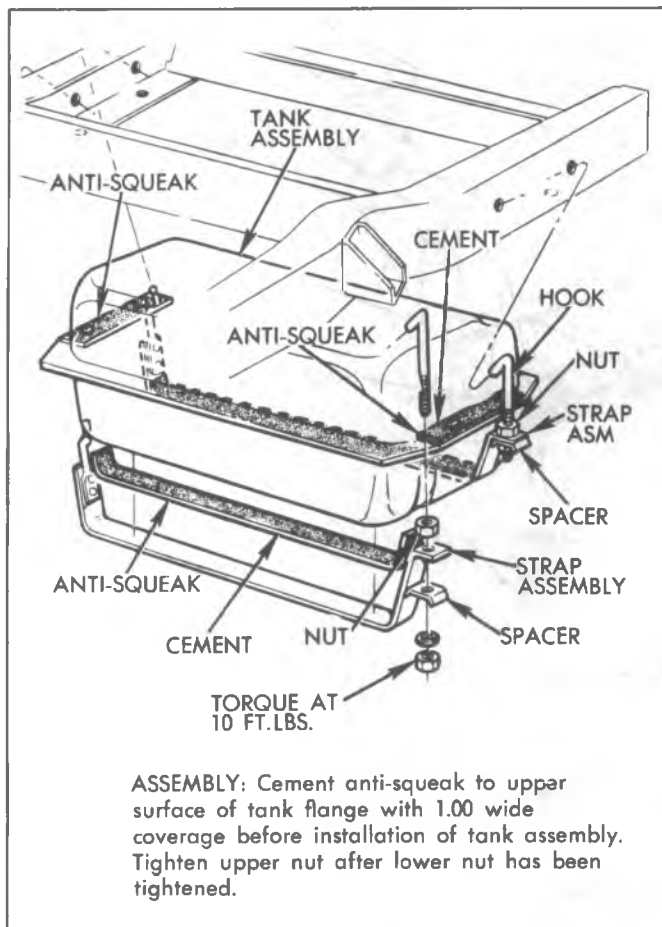

Fig. 6C5-15--Fuel Tank and Mounting - P10
**Frame Mounted Fuel Tank - P Model (Figs. 6C5-15, 16, 17)**